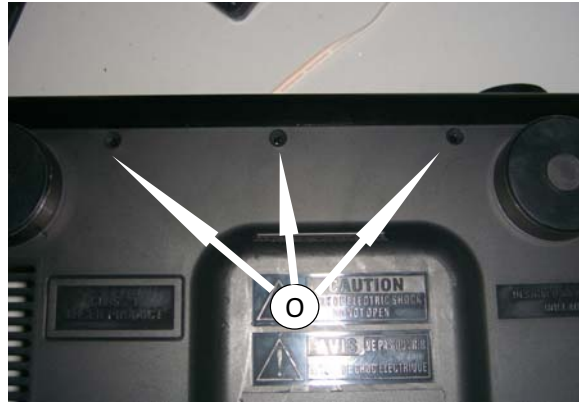

Figure 15
- 1) Loosen 3 screws "O" on the bottom cabinet as shown in figure 15.